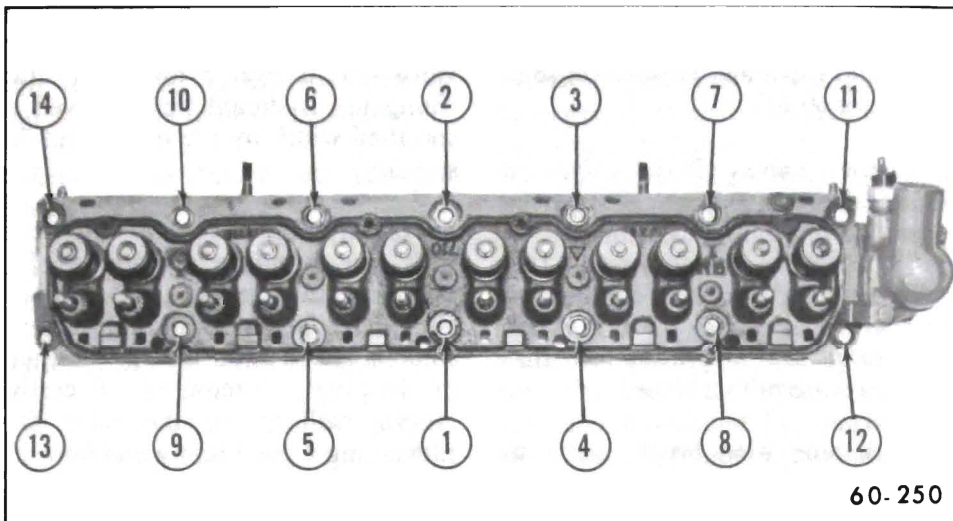

Figure 60-102--Cylinder Head Bolt Tightening
5. Install head bolts. Tighten the bolts a little at a time about three times around in the sequence shown in Figure 60-102. Give bolts a final torque in the same sequence. Torque to 95 lb. ft.